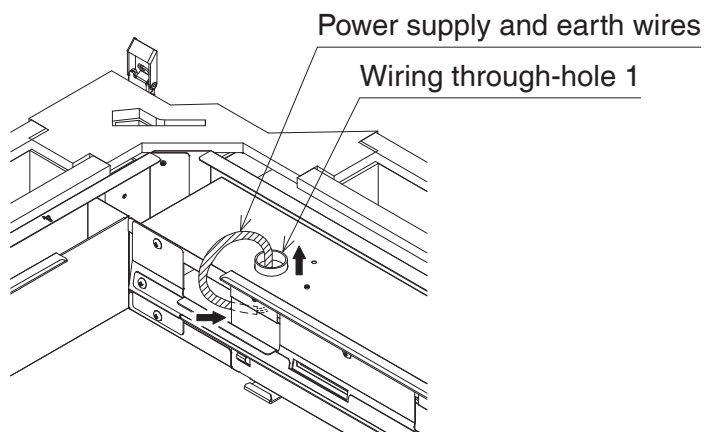

Figure 9
3. Pass the power supply wires (black and white) and the earth wire (green or yellow) through wiring through-hole 1. (Refer to **Figure 9**.)